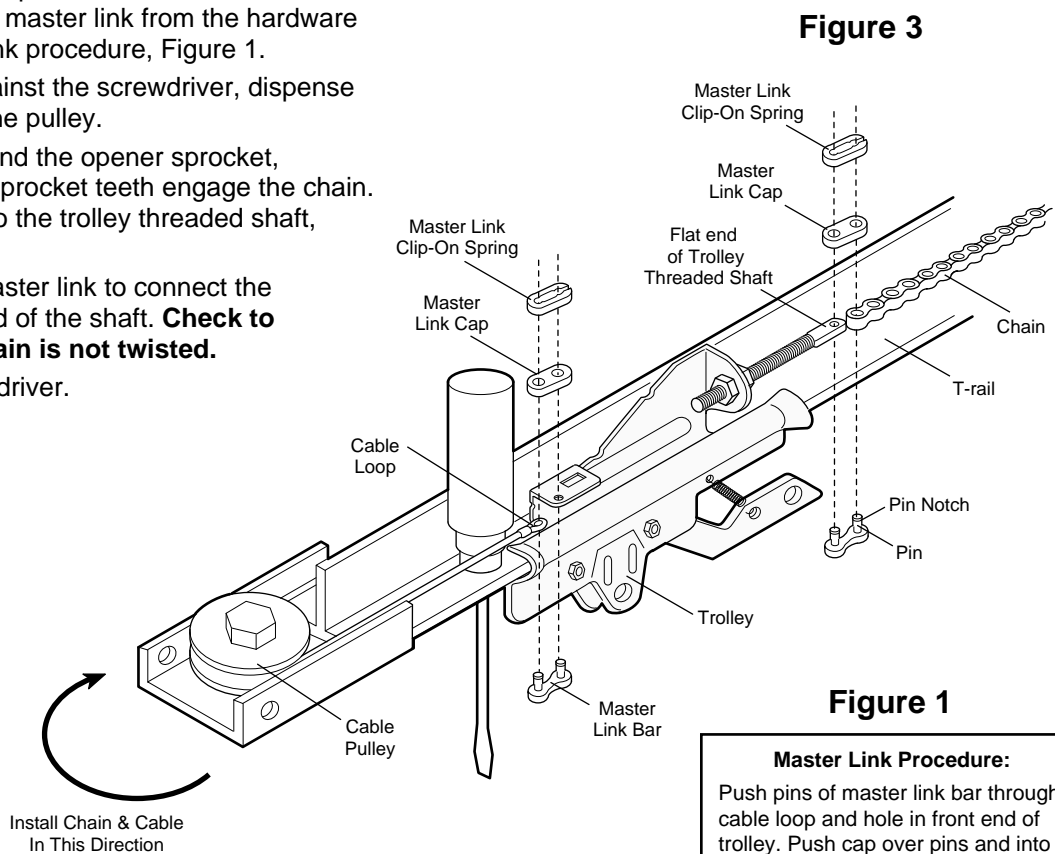

Figure 3
- Proceed back around the opener sprocket, Figure 2. Be sure sprocket teeth engage the chain. Continue forward to the trolley threaded shaft, Figure 3.